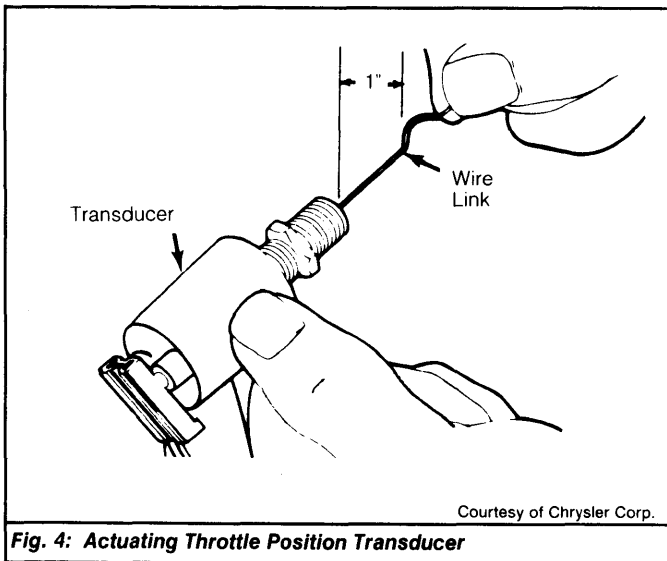

Fig. 4: Actuating Throttle Position Transducer
5) Move transducer core in until fully bottomed. Start engine, wait 90 seconds, then pull transducer core slowly out to about one inch. See Fig. 4.
- 5) Move transducer core in until fully bottomed. Start engine, wait 90 seconds, then pull transducer core slowly out to about 1 inch. See Fig. 4.